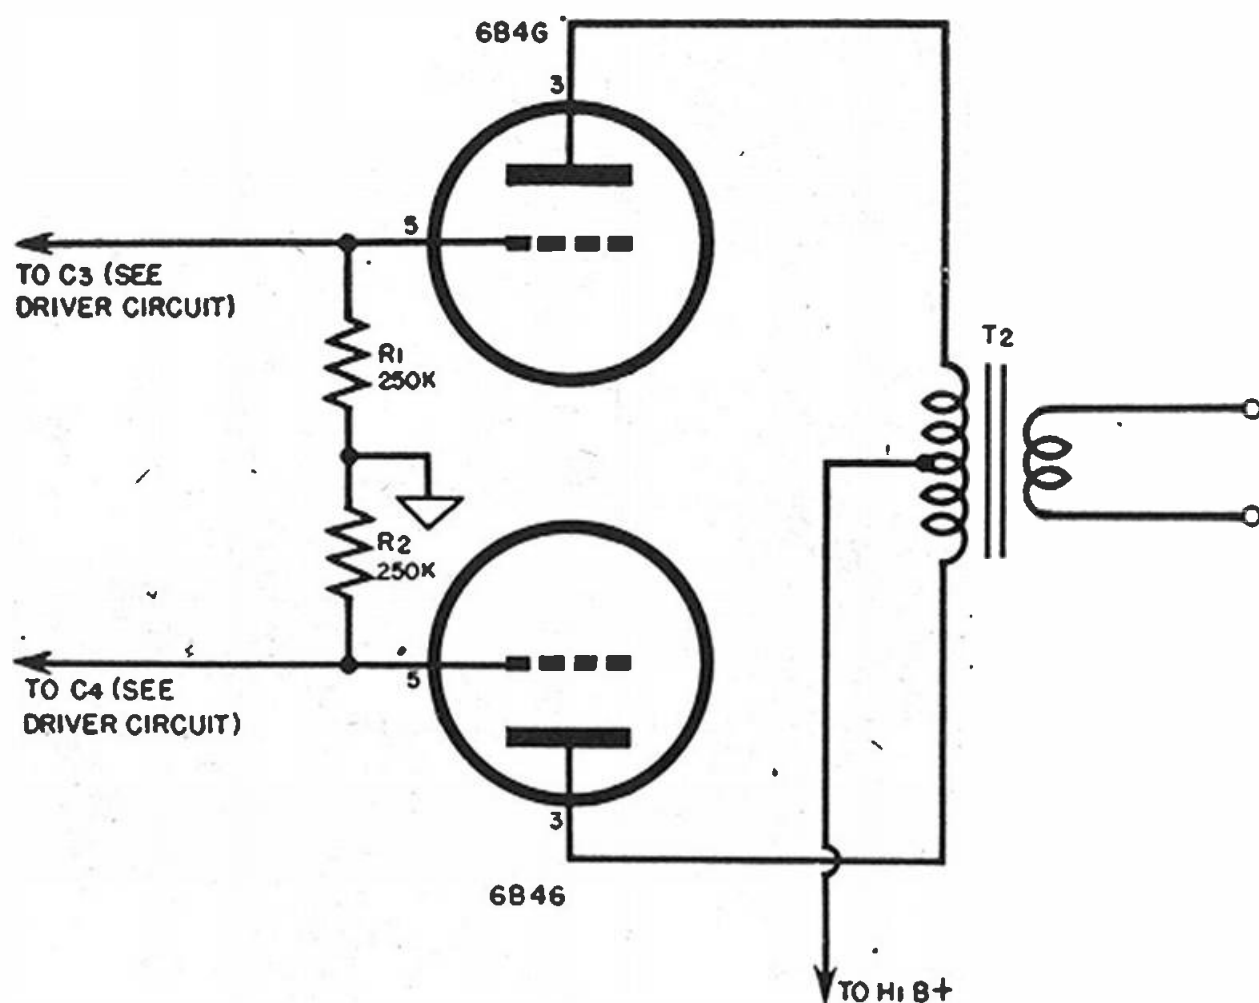

Fig. 5-24. Output circuit for seven-tube amplifier.
c) *Output Circuit.* See Figure 5-24.